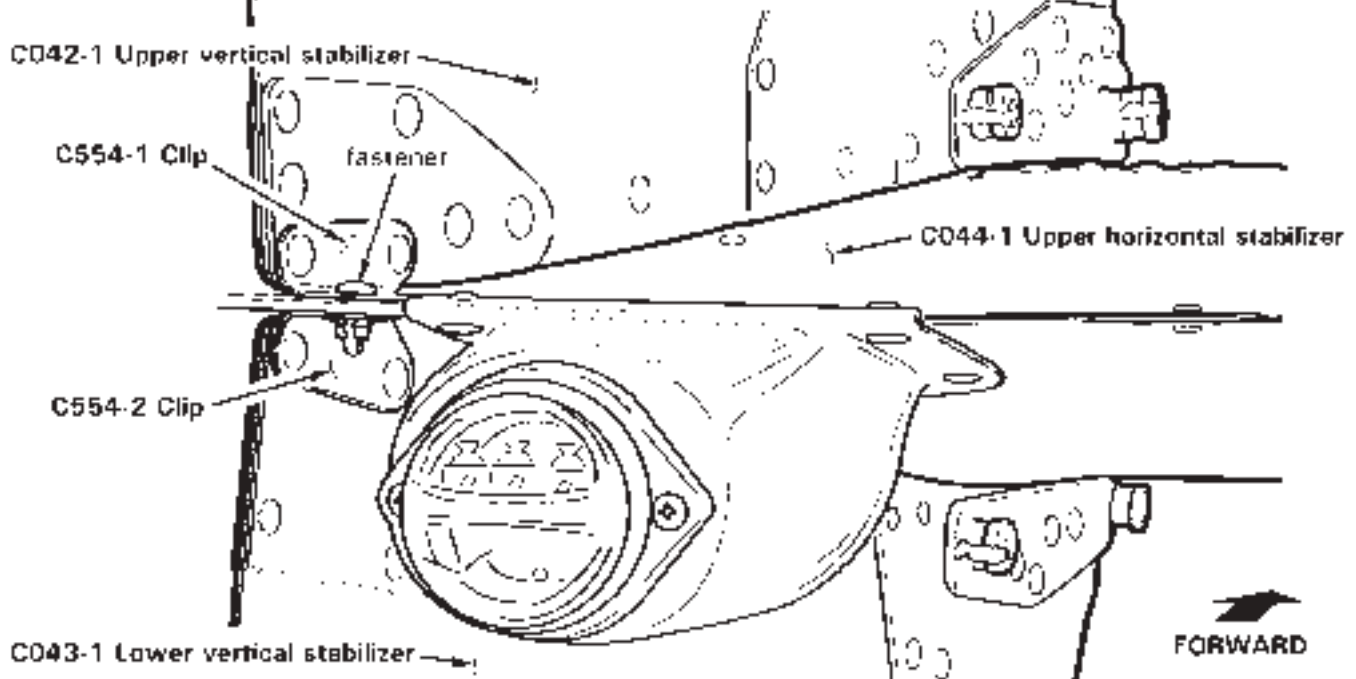

FIGURE 53-6 EMPENNAGE - TAILCONE CASTING
3. Refer to Figure 53-6. Support C004-2 empennage assembly, remove two bolts and associate hardware securing assembly to tailcone casting, and remove assembly.
1. Refer to Figure 53-6. Position C004-2 empennage assembly on tailcone casting. Install two bolts and associate hardware securing assembly to casting; select bolt length to meet torque requirements per § 20-30. Standard torque bolts per §20-32, and torque stripe per Figure 5-1.
1. Refer to Figure 53-6. Remove fastener securing vertical stabilizer C554 clips to upper horizontal stabilizer trailing edge.
1. Refer to Figure 53-6. Position C042-1 stabilizer on empennage. Verify 0.030-0.120 inch gap between C042-1 stabilizer skin edges and upper horizontal stabilizer skins. File vertical stabilizer skin edge(s) as required.
3. Refer to Figure 53-6. Remove fastener securing C554 clips to upper horizontal stabilizer trailing edge.
1. Refer to Figure 53-6. Position C043-1 stabilizer on empennage. Verify 0.030-0.120 inch gap between C043-1 stabilizer skin edges and upper horizontal stabilizer skins. File vertical stabilizer skin edge(s) as required.